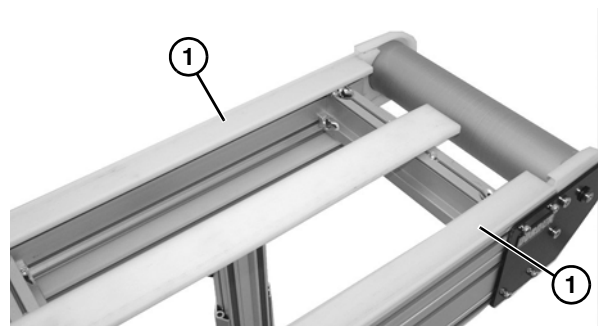

Figure 25
1. Remove upper wear strips (Figure 25, item 1) from top of frame assembly.